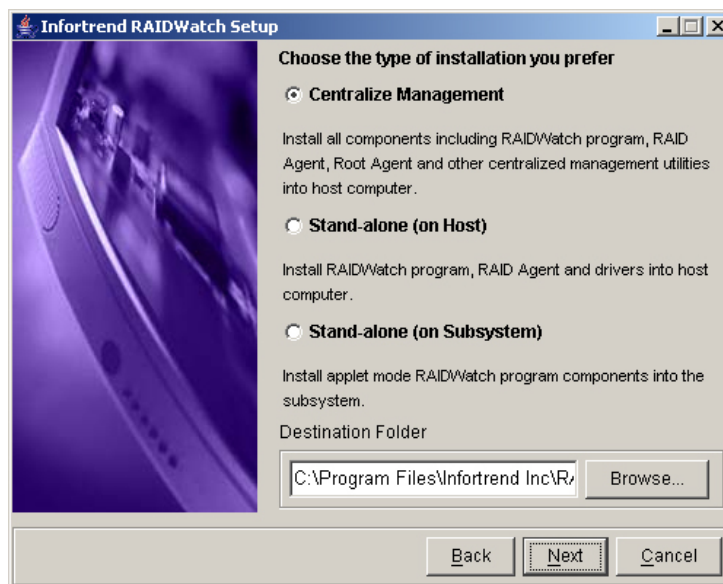

Figure 3-6: Advanced Installation Options
Step 9. If you choose the **Advanced Install** in the previous screen, three (3) installation modes will appear. These modes, shown in **Figure 3-6**, are **Centralized Management**, **Stand-alone (on Host)**, and **Stand-alone (on Subsystem)**.